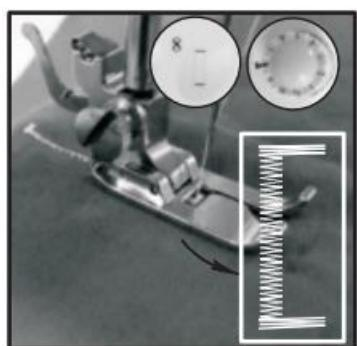

Fig.19
4. Choose the stitch pattern #8, then turn on switch and sew 5-6 stitch in low speed, then turn off switch.(Fig.19)